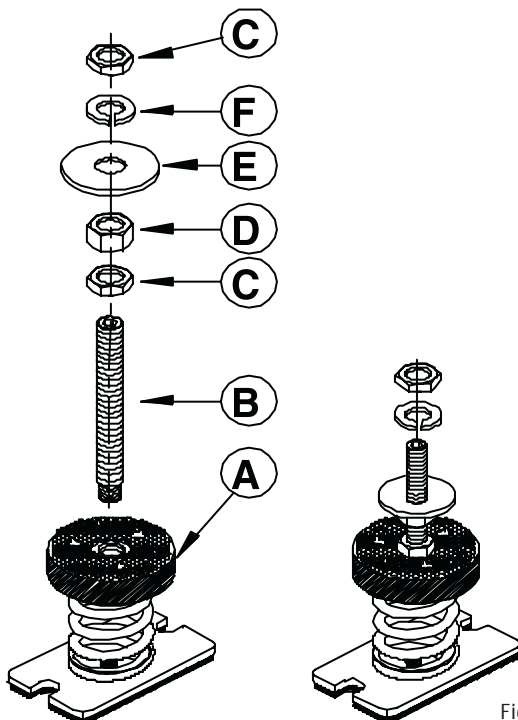

Fig. 1
- Fig. 1) Start assembling the components of the jack.